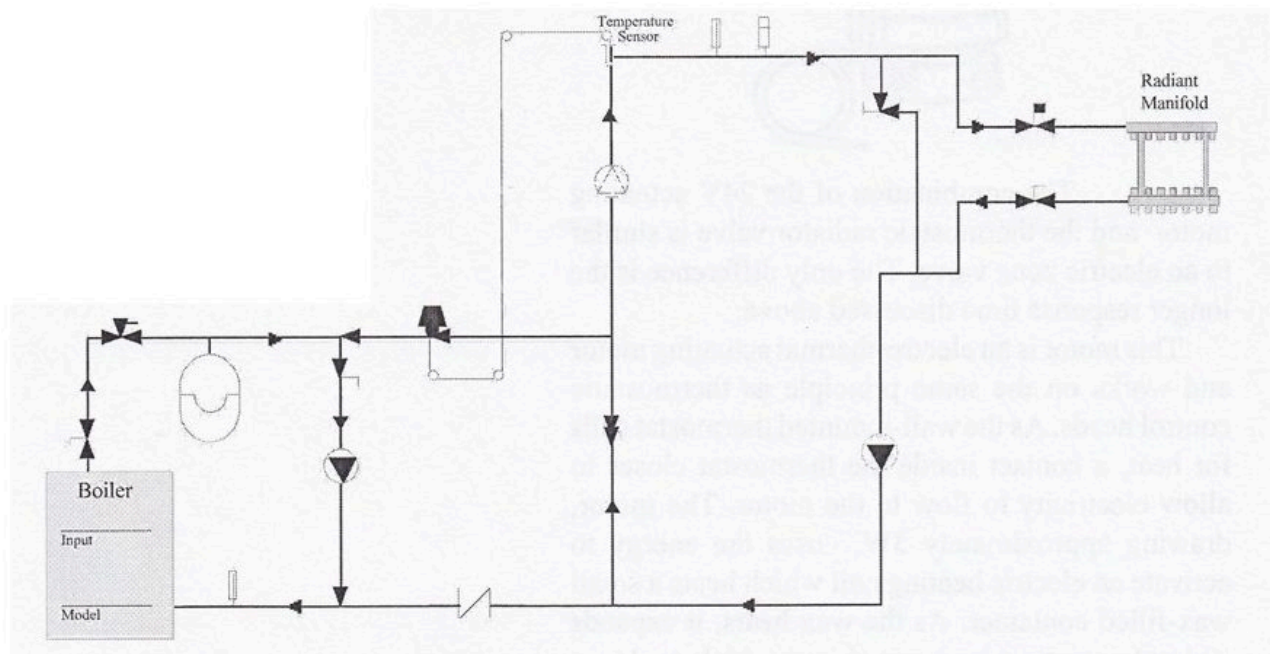

Figure 11 2-way injection valve placement
- Figure 11 2-way injection valve placement is courtesy of TECA BC.